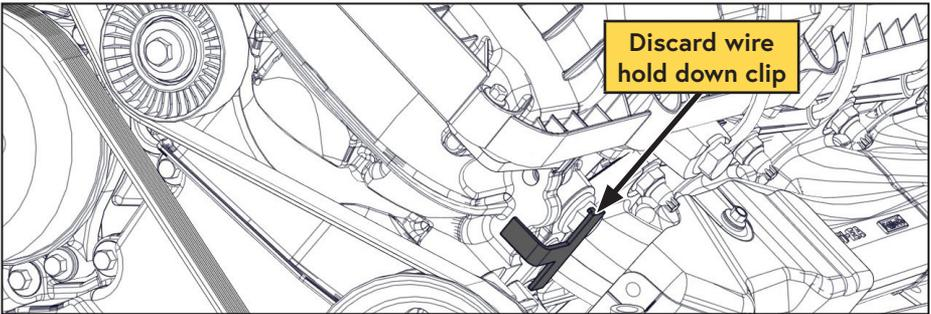

Figure 17 — Discard wire hold down clip
- Remove the OEM wire hold down clip (located just above the power steering pump) from the harness and discard. Secure the harness to the rear of the mounting boss using the supplied barbed cable tie (Figure 17).